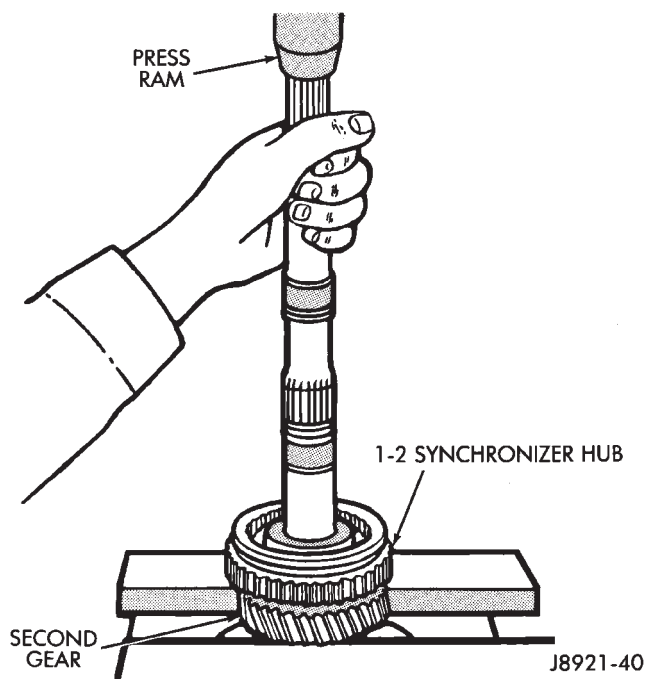

Fig. 32 Second Gear And 1-2 Synchronizer Removal
(18) Press 1-2 synchronizer and second gear off output shaft (Fig. 32).